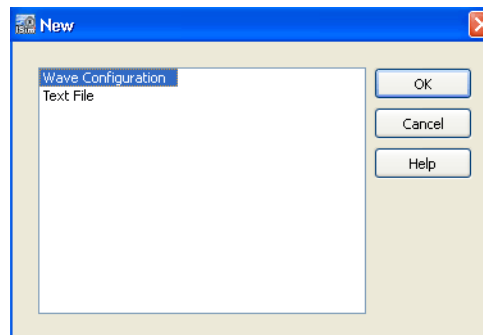

Figure 4-43: New Wave Configuration
- In ISim, select **File > New**. In the resulting pop-up window, select **Wave Configuration** and click **OK** (Figure 4-43).